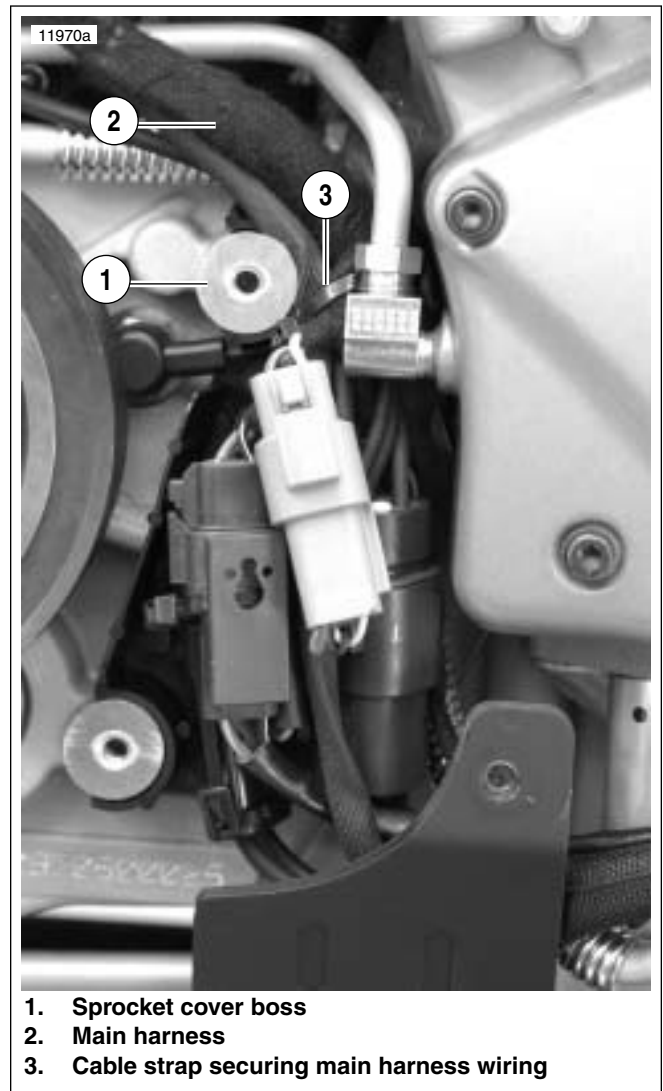

Figure 7-101. Correct Location for Sprocket Cover Wiring
- *See Figure 7-101. Make sure main harness (2) is routed around sprocket cover boss (1).*